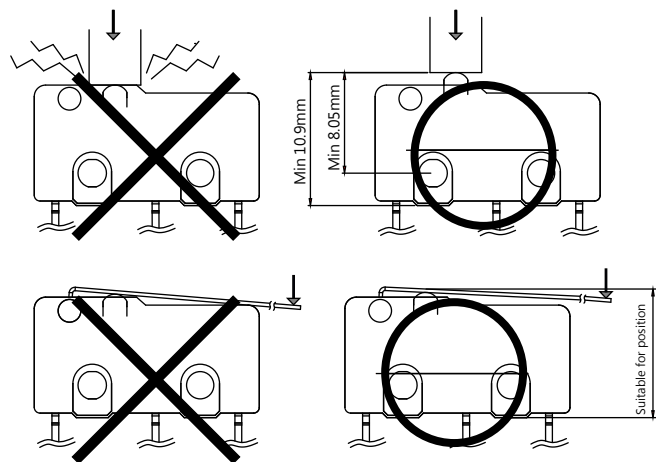

Figure-2
3. Do not exceed the end position (EP) and over travel (OT). This could cause operation failure.(Figure -2)